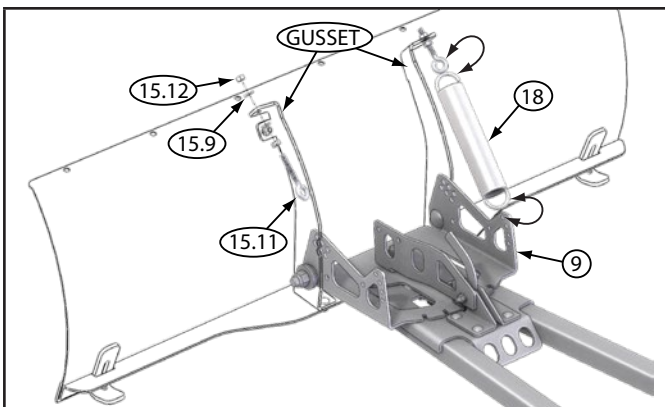

Figure 8 - Spring Assembly
6. Hook the plow springs (18) into the smaller rear holes in the pivot plate (9), as shown in Figure 8. Place the eyebolts (15.11) onto the end of the plow springs and secure the eyebolts onto the plow blade gusset using nut (15.12) and washer (15.9), as shown in Figure 8. Leave spring tension loose as you will decide tension in Step 9.